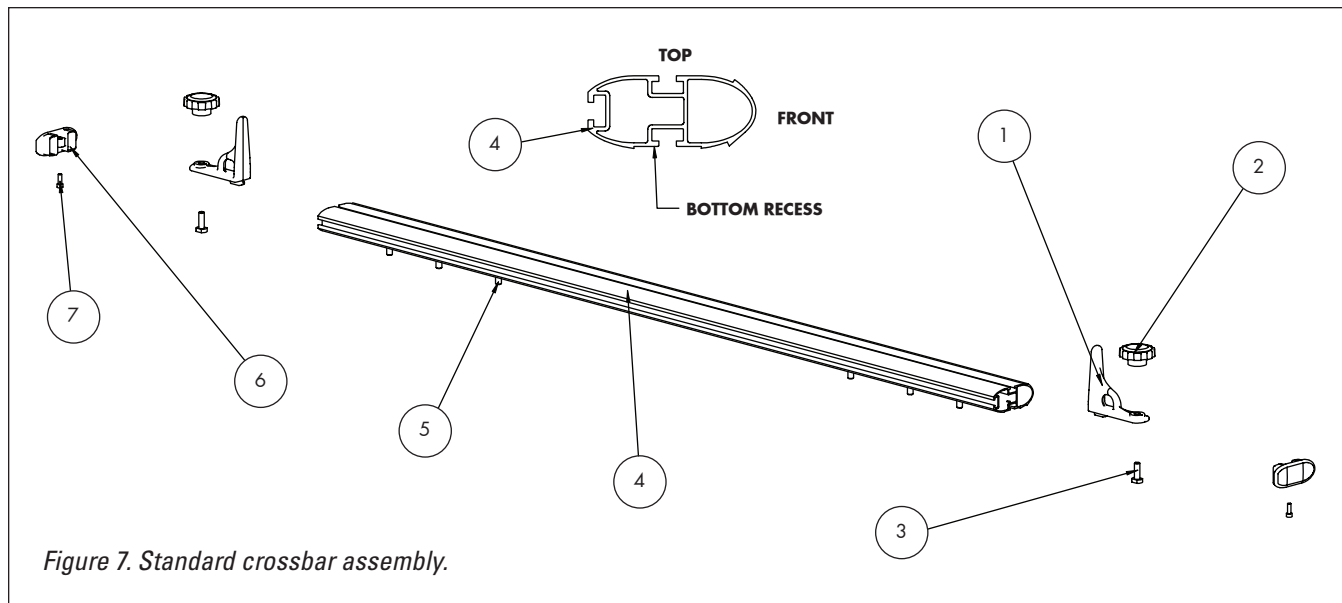

Figure 7. Standard crossbar assembly.
- 7A. Build two standard crossbar assemblies. Assemble two tie downs—items 1, 2 and 3 (See Figure 7 and Table 5). Slide them into the top groove of the crossbar.
- 7B. Slide 6 T-bolts (item 5) into the bottom groove of the crossbar (3 per side).